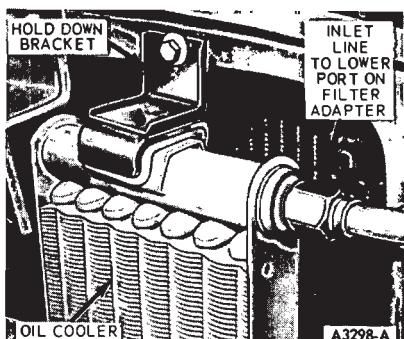

FIG. 7—Engine Oil Cooler Installed
2. Remove the hold-down bracket from the top of the cooler (Fig. 7).